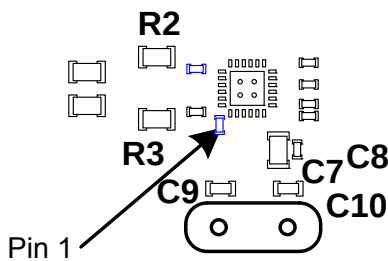

Figure No. 3
2. These caps are shown as C7 & C8 in Figure No. 3 below.
1. Place the 25.000 MHz crystal and the associated 15 – 33 pF capacitors as close together as possible and as close to the LAN8720I QFN (XTAL1, pin 5 & XTAL2, pin 4) as possible. They should form a tight loop. Keep the crystal circuitry away from any other sensitive circuitry (address lines, data lines, Ethernet traces, etc.). Refer to Figure No. 3 for crystal component placement (C9 & C10).